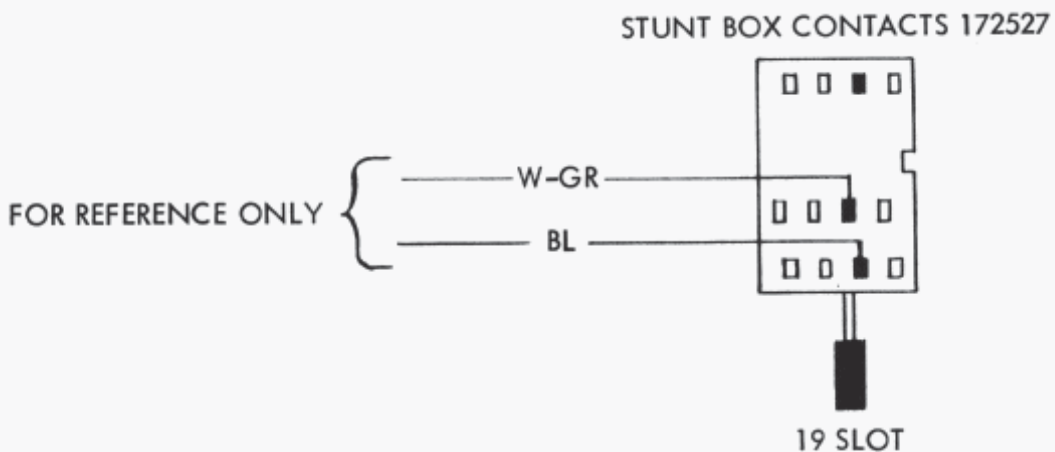

FIGURE 2
For stunt boxes used in sprocket feed printers, additional changes are required and should be made as follows: (See Figure 2.)
n. Remove the contact arm located over Slot 13 and discard. Install the 172527 Switch Assembly over Slots 17, 18, 19 and 20. Unsolder the blue lead and the white-green lead of the 172542 Switch Assembly. Resolder the blue lead to the rear terminal of the 172527 Switch Assembly located over Slot 19. (See Figure 2.) Resolder the white-green lead on the center terminal of the switch assembly. (See Figure 2.)
STUNT BOXES USED IN SPROCKET FEED UNITS REQUIRE THE ADDITIONAL WIRING SHOWN BELOW IN FIGURE 2